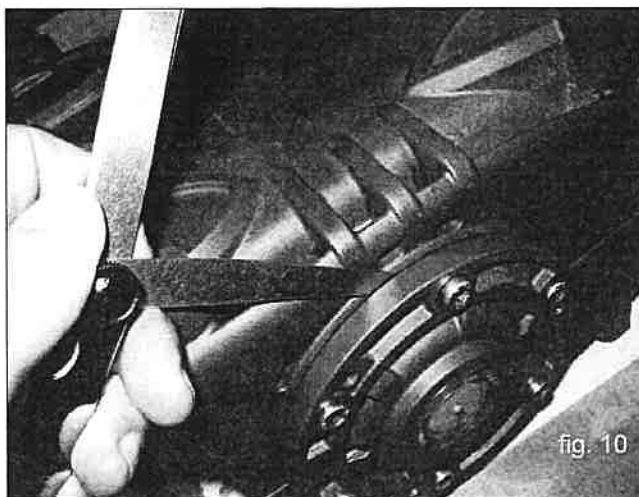

fig. 10
- D) Use a thickness gauge (see fig. 10)